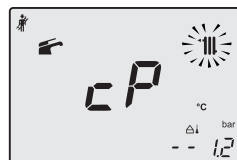

Fig. 9.24
- Press key 18 to vary the output in chimney sweep mode: when the LCD display displays the letters **cP** that alternate with the heating water temperature value (e.g. **78**), the "chimney sweep function" is at maximum (eventually range rated) output in heating mode (Fig. 9.24).